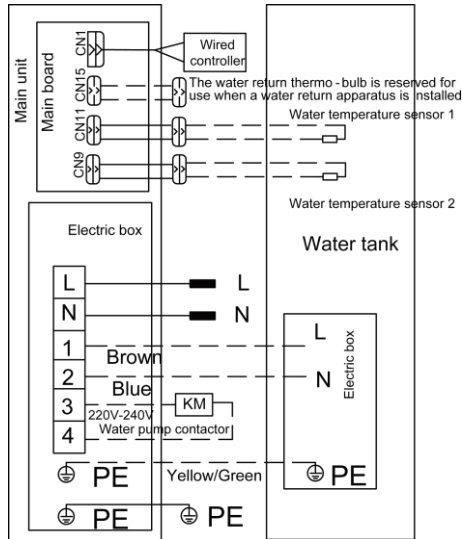

Figure 9-1 External wiring for CH-HP3.0SWHK mapping WT200SW1.5EHK
(1) Unscrew the screw on the connection box cover on the right side panel of the main unit to open the connection box cover. Figure 9-1 shows the external wiring.